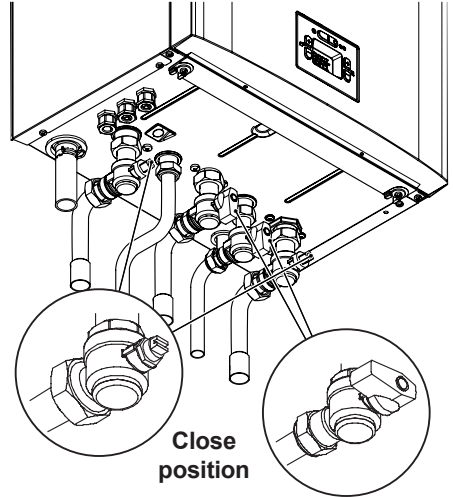

Fig. 2.17
- Shut off the gas supply cock and the valves for the water circuits fitted under the boiler Fig. 2.17;